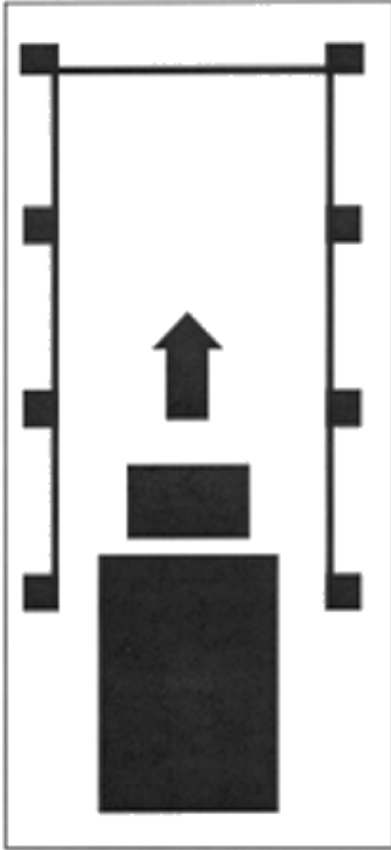

Figure 12-1 Forward stop
These exercises are shown in Figures 12-1 through 12-6.
You will be asked to drive forward between two rows of cones and bring your vehicle to a complete stop as close as you can to the exercise boundary marked by an end line and a set of cones (without touching or going beyond the line or cones). You cannot open your door, lean out the window or stand up to improve your view. You will be scored on how close your vehicle finishes near the stop line at the end of the alley without touching or going beyond it. (See Figure 12-1.)
- You may be asked to back your vehicle in a straight line between two rows of cones without touching or crossing over the exercise boundaries. (See Figure 12.1.)